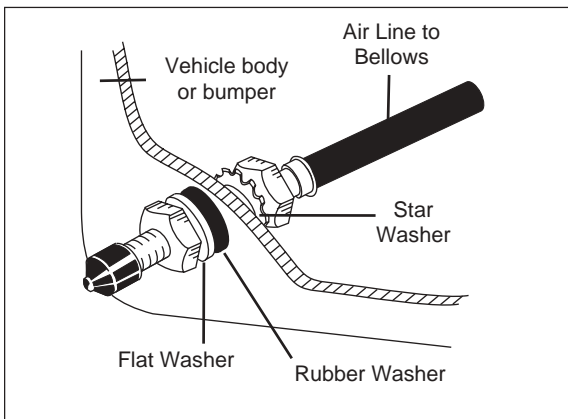

Figure 13
- b. Install the rubber washer on the outside. It is for weather seal (Figure 13).